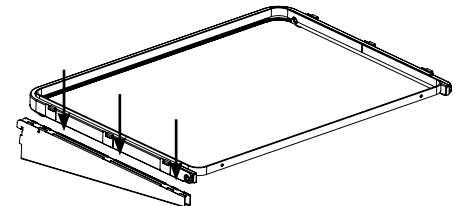

Figure 5
STEP 6: Install the surround assemblies by inserting the six tabs into the slots on the shelf brackets. When fully seated, push the assembly towards the wall to secure the tabs to the bracket (**Figure 5**). Install the plastic bracket cap on the top to lock in place.